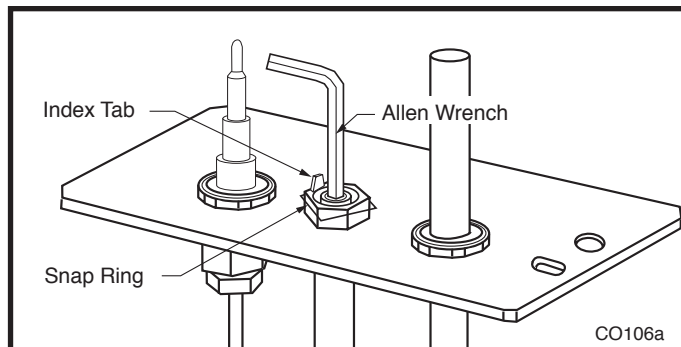

**Fig. 53** Use 3/8" socket to remove hex nuts holding left burner leg.
4. Remove two (2) hex nuts holding the left burner leg. Remove burner leg. (Fig. 53)